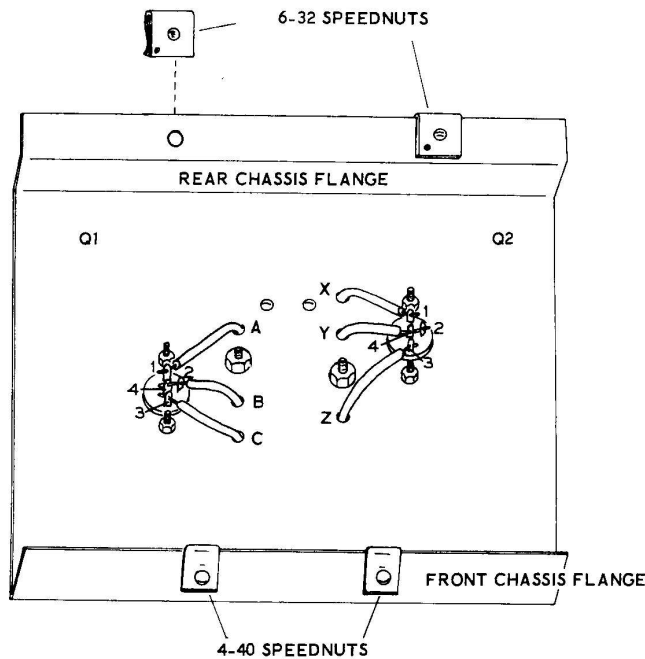

Figure 2K
Refer to Figure 2K for the following steps.
- ( ) Install two 6-32 speednuts over the holes on the rear chassis flange. Install two 4-40 speednuts over the holes on the front chassis flange. Be sure the flat surface of the speednuts face as they are shown in Figure 2K.